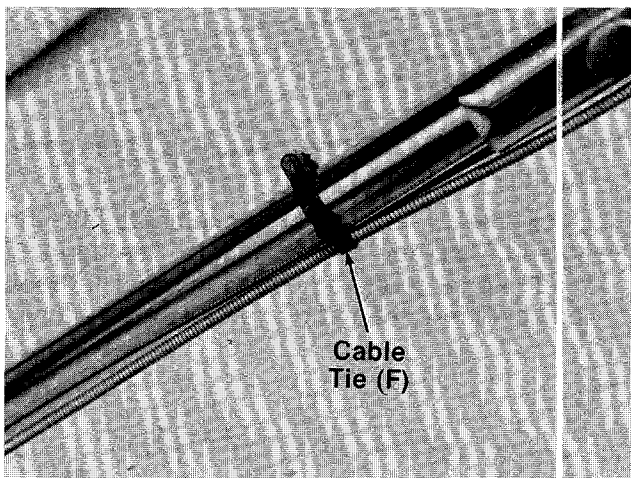

FIGURE 8.
14. Secure throttle control and brake cables to upper and lower handles with cable ties (F). See figure 8.